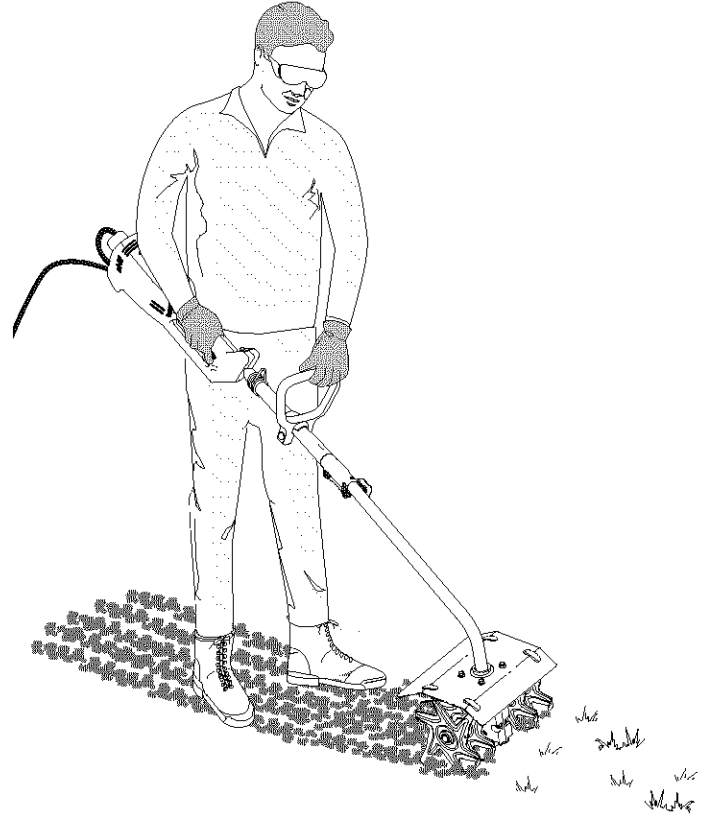

Fig. 4
4. Holding both of the shaft and handle grips firmly, slowly lower the cultivator until the tines make contact with the ground (Figs. 4 & 5).